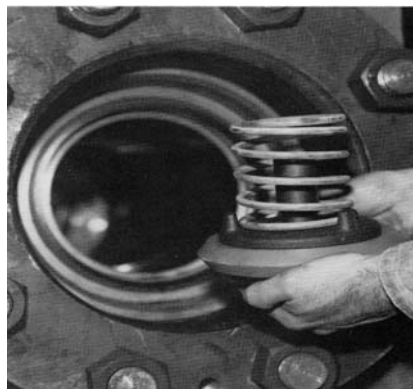

Fig. 4-7 Removing suction valve and valve spring
5. Remove suction valve and valve spring (Figures 4-7)